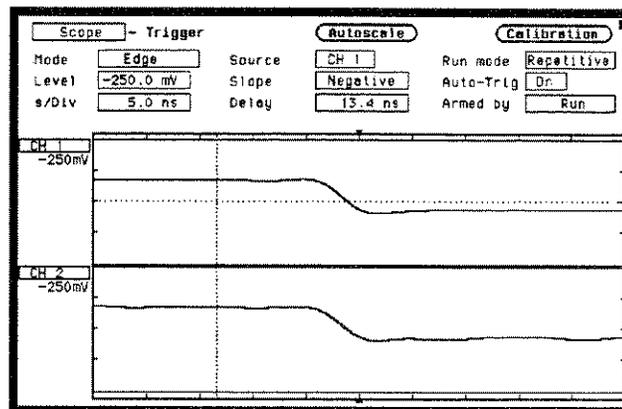

Figure 25-6. Negative Edge Of Waveform
- Touch the TRIG key and toggle the **Slope** field in the Trigger Specification menu to **Negative**. Notice the negative-going edge of the waveform is now displayed as shown in figure 25-6.